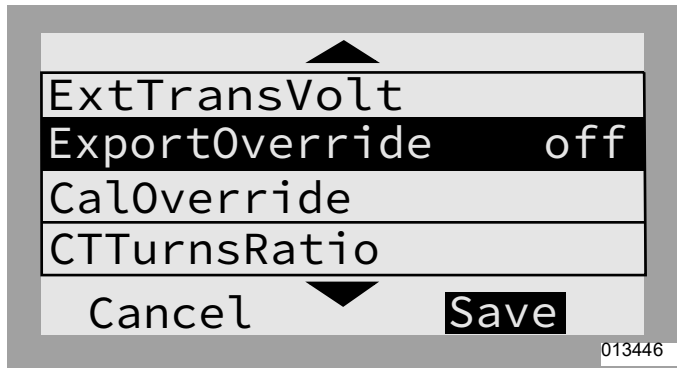

Figure 7-4. Mod Settings Menu
5. See Figure 7-4. Use the down arrow key to scroll to 'Export Override' and select using the center button.